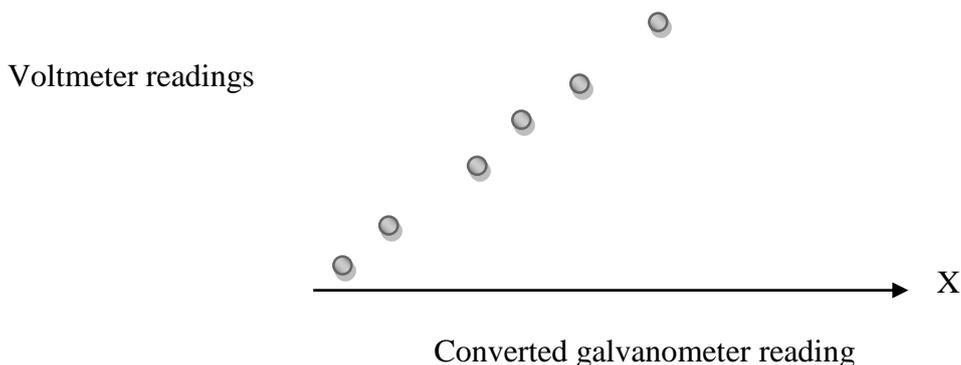

Figure 4
- (i) Let us set up the electrical connections as shown in figure (2). The two base terminals of a rheostat R_h are connected in series with a battery E and key K . The galvanometer together with its series resistance (introduce a resistance box) is connected in parallel to the rheostat R_h . Between the same points, a voltmeter is also connected.
- (iii) We plot a graph between converted galvanometer reading in volt and corresponding reading in voltmeter. You will see that the graph is a straight line as shown in figure 4.